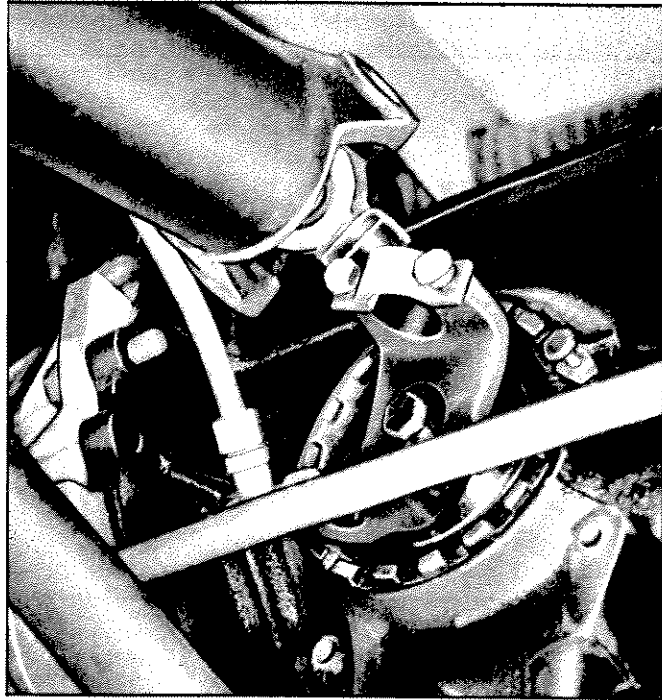

Fig. 46—Rear Axle Disconnected
12. Disconnect inner universal joints (fig. 46).